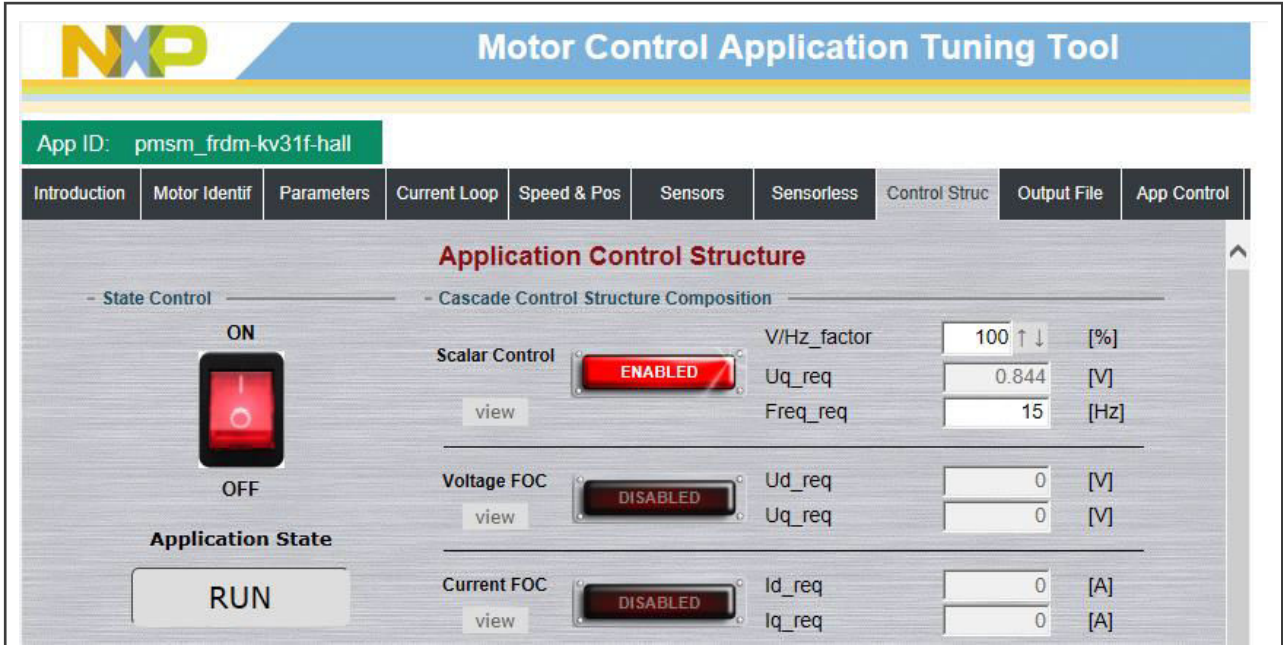

Figure 41. MCAT scalar control
- Set the required frequency value in the “Freq_req” field; for example, 15 Hz in the “Scalar Control” section. The motor starts running (Figure 41).